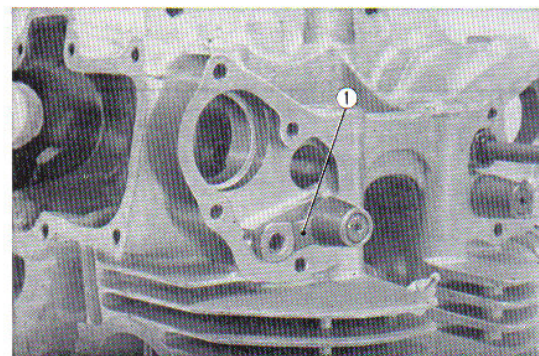

Fig. 3.44
2. Unscrew the torsion bar, hold the torsion bar arm in the direction of the arrow marked on the end of the valve spring so as to relieve the load from the holder bolt. (Fig. 3.44)